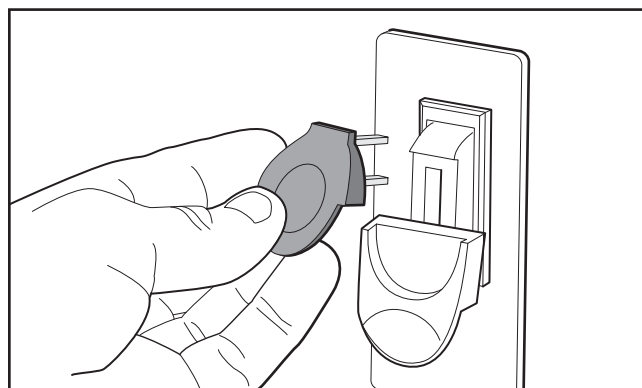

Figure 12. Removing key from paddle switch to disable switch and prevent unauthorized use.
5. Remove switch disabling key, as shown in **Figure 12**.